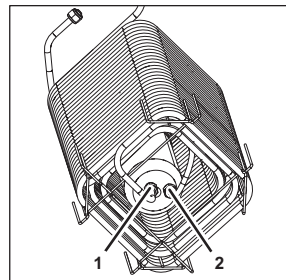

Figure 84
15. Disconnect the soda cooling line from the coupling (Figure 84/1).
16. Disconnect the soda water line from the coupling (Figure 84/2).
21. Attach the soda water line to the coupling (Figure 84/2).
22. Attach the soda cooling line to the coupling (Figure 84/1).